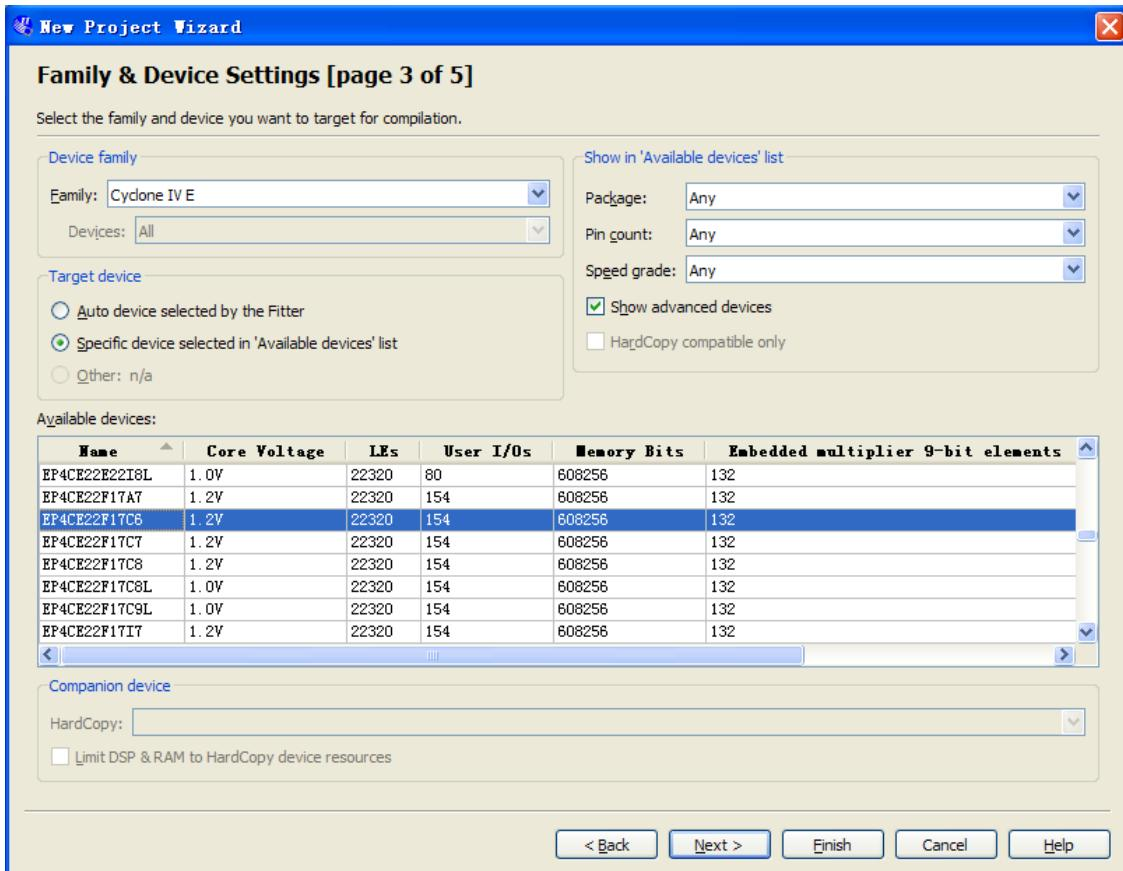
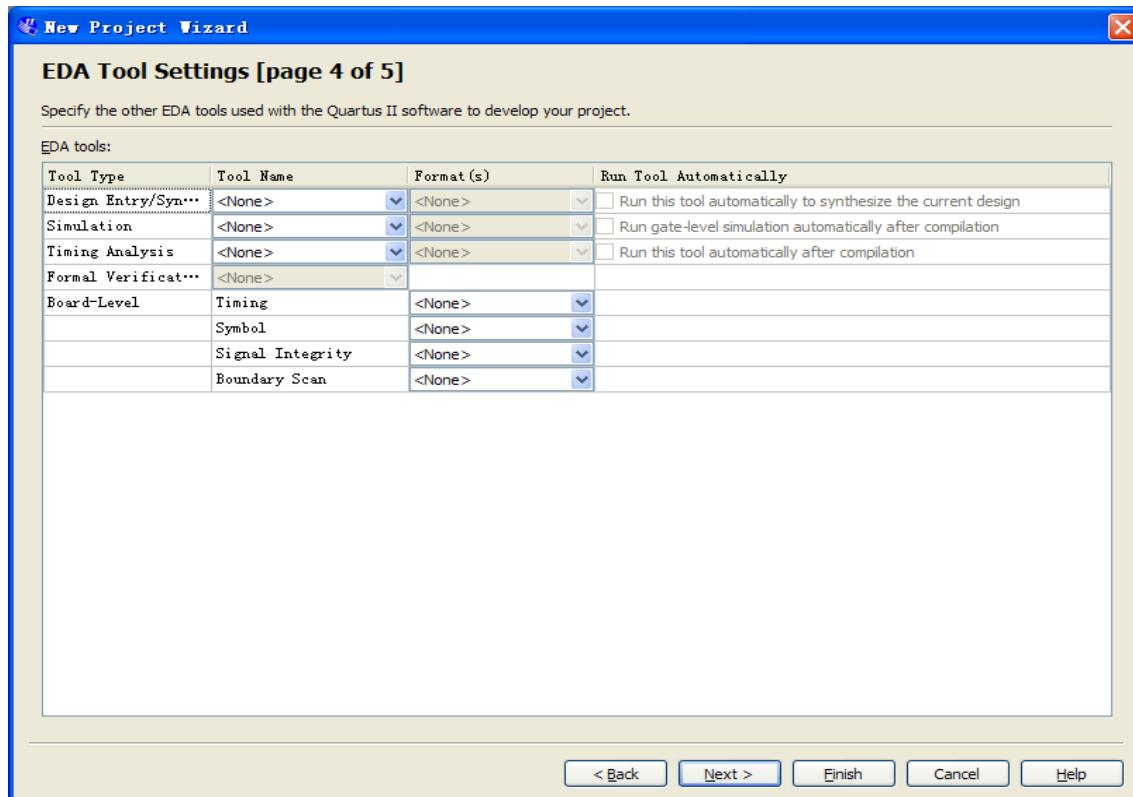

Figure 7-5 New Project Wizard: Family & Device Settings [page 3 of 5]
Figure 7-6 New Project Wizard: EDA Tool Settings [page 4 of 5]
3. Click **Next** to skip in **Add Files** window. In the **Family & Device Settings** window, we will choose device family and device settings appropriate for the DE0-Nano board. You should choose settings the same, as shown in Figure 7-5. Then click **Next** to get to the window as shown in Figure 7-6.